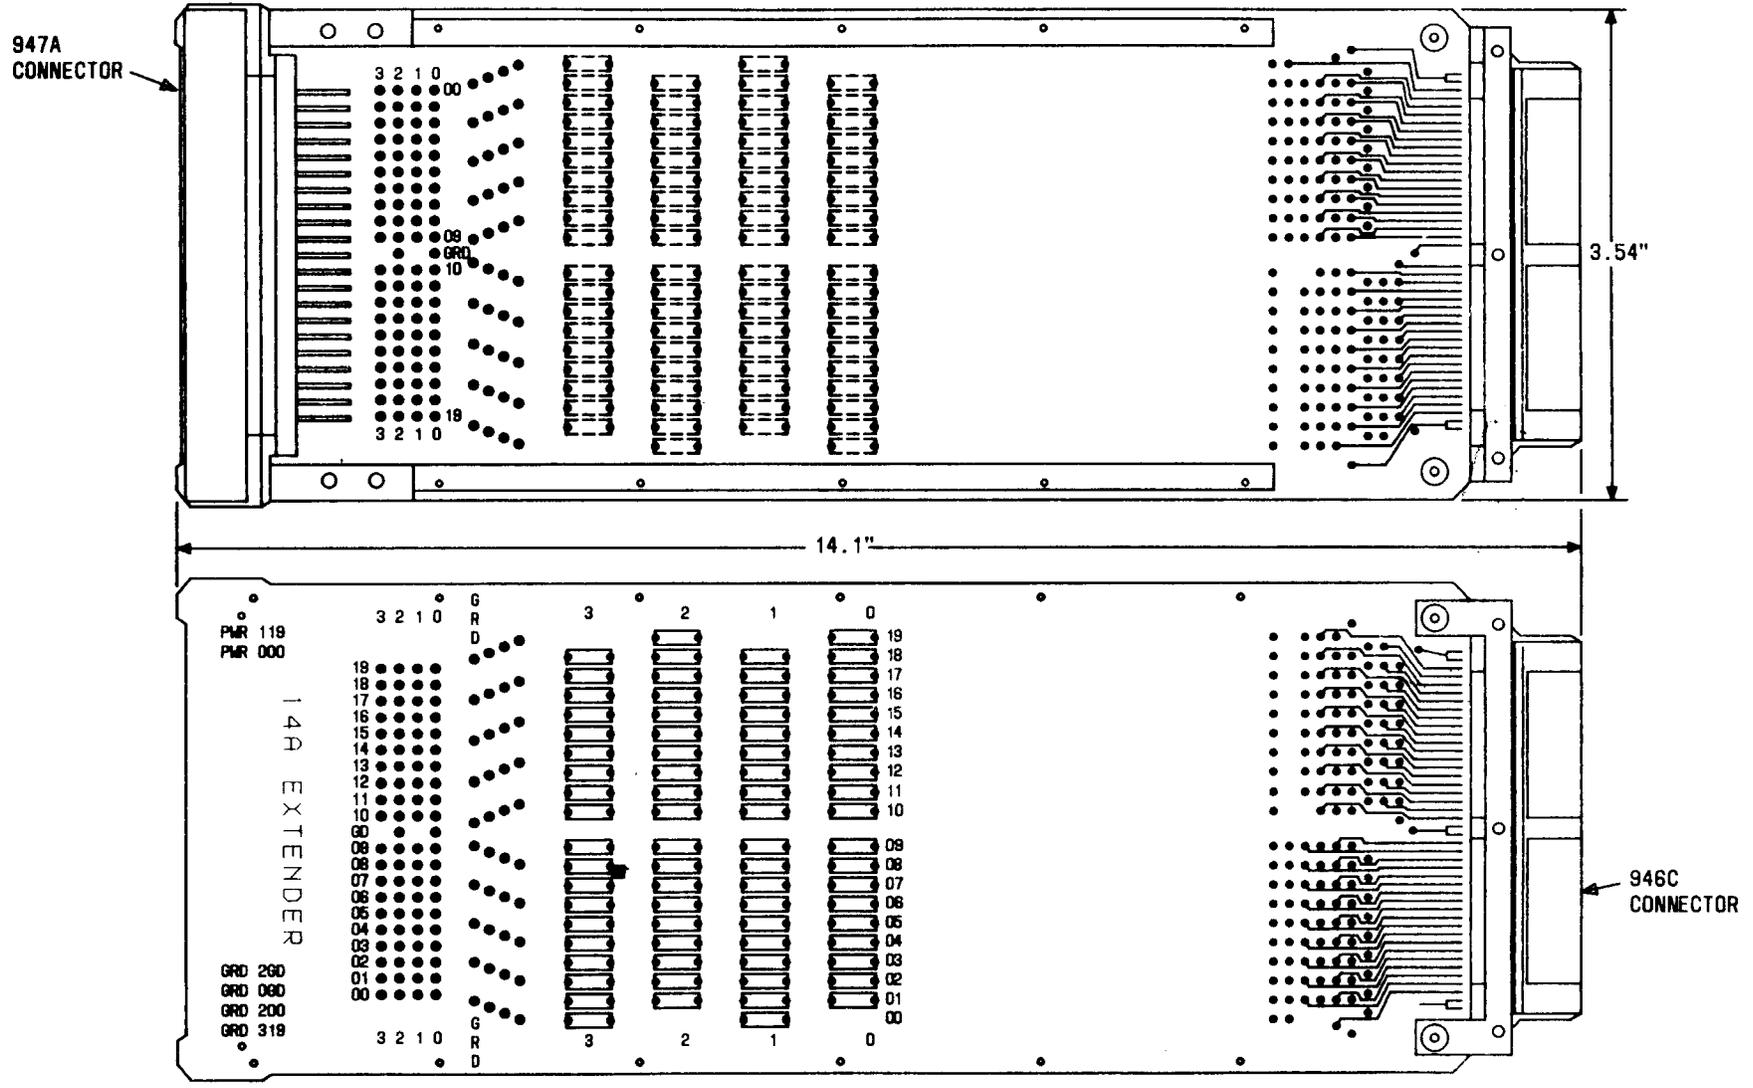

Fig. 1—14A Extender
2.03 14A: The 14A extender (Fig. 1) is used to extend FA-, FB-, and FC-type circuit packs and provide access, shorting, grounding, and opening capability for the associated signal leads in the No. 1A and No. 3A processor.